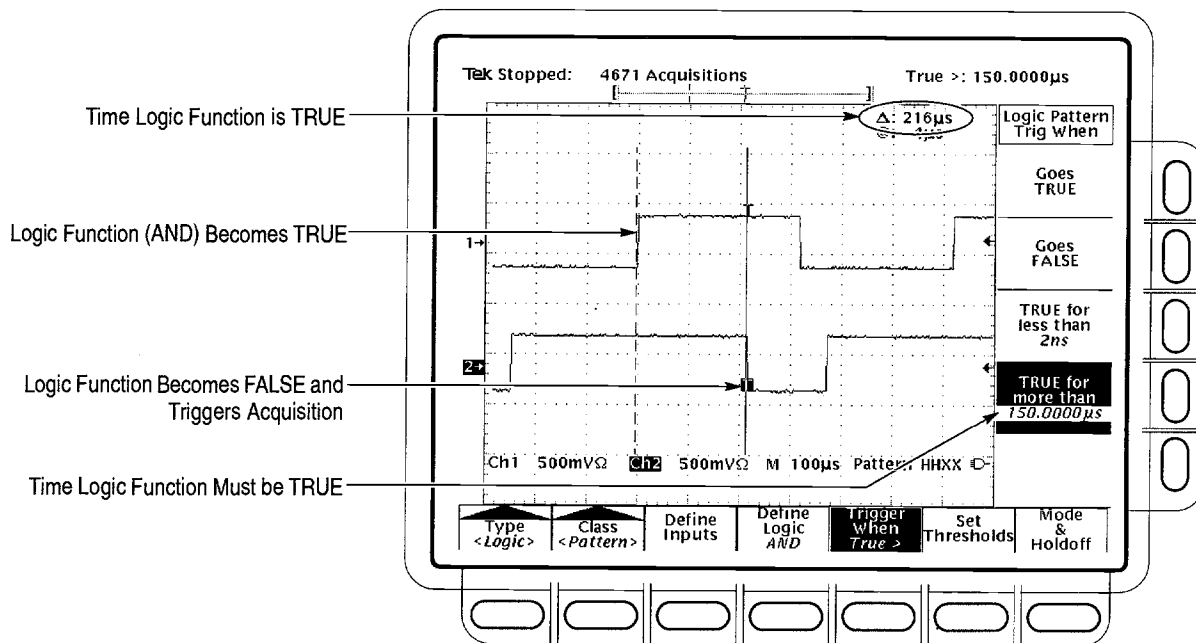

Figure 3–47: Logic Trigger Menu — Time Qualified TRUE
Note the position of the trigger indicator in Figure 3–47. Triggering occurs at the point that the oscilloscope *determines* that the logic function you specify is TRUE within the time you specify. The oscilloscope determines the trigger point in the following manner:
In Figure 3–47, the delay between the vertical bar cursors is the time the logic function is TRUE. Since this time is more (216 μ s) than that set in the TRUE for more than menu item (150 μ s), the oscilloscope issues the trigger at that point, not at the point at which it has been TRUE for 150 μ s.